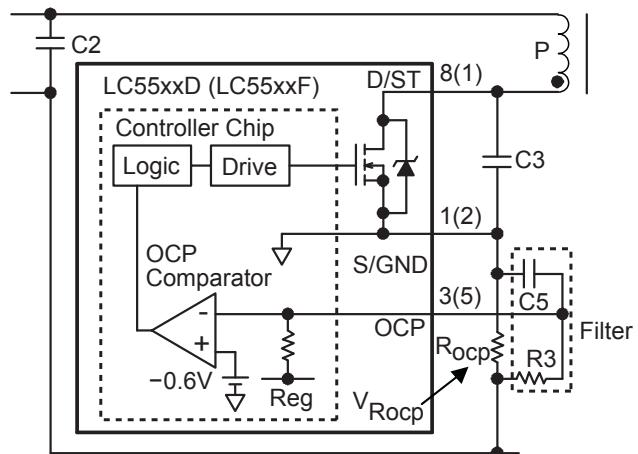

Figure 44. Minus detection OCP circuit
In order to minimize effects of variation in the internal resistor, R3 (figure 44) is recommended to have a value from 100 to 330 Ω . and C5 is recommended to have a value from 100 to 470 pF, with good temperature characteristics. Selecting larger capacitances slows OCP response, and results in an increase in the drain current peak at transient conditions, such as start-up.
- reduce the voltage resonant capacitor C_v (C_3 in figure 44) capacitance